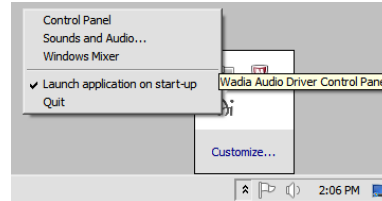

Figure 14
2. Right mouse button click to bring up the menu and then select the “Sound and Audio...”. Refer to figures 14 and 15.